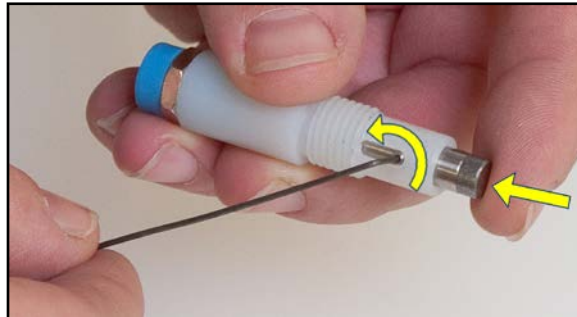

Figure 3-3. Removal of the Brush Set Screw.
Use the small hex key to remove the set screw. Note that the required hex key (0.035") is included with the brush replacement kit (see: Figure 3-3).